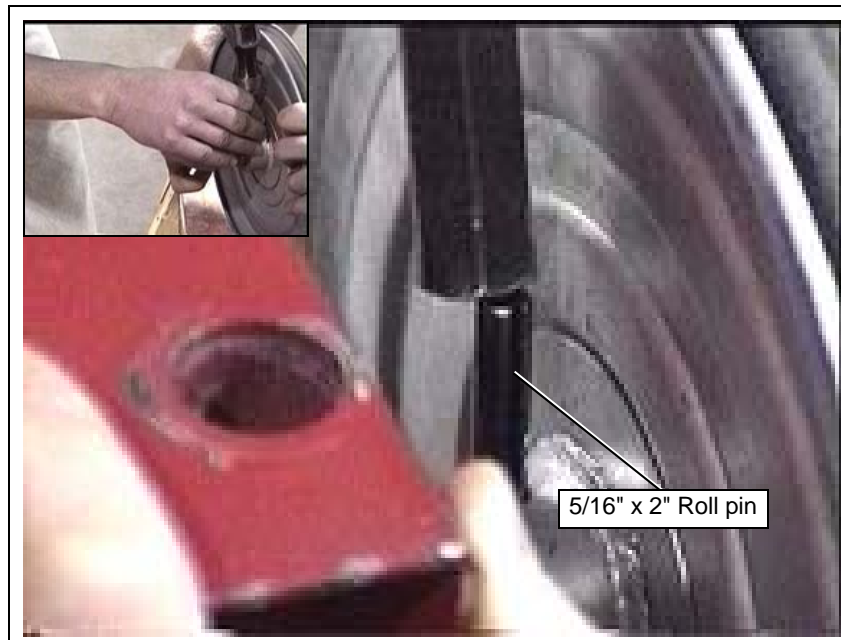

Figure 4H
**NOTE:** *It may be necessary to pre-start the roll pin. The pulley is separate from the shaft as seen in Figure 4H corner picture.*